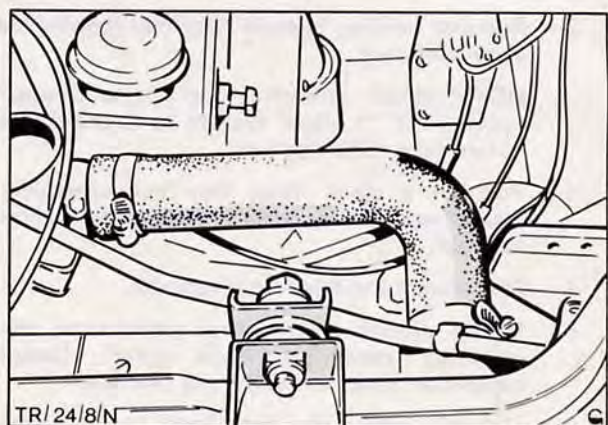

Fig. 25. Top hose on Diesel variants showing clips and location
5. Disconnect top hose from radiator and thermostat housing and detach, Fig. 25.